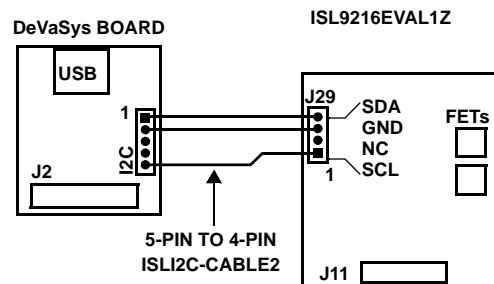

FIGURE 6. I²C CONNECTION TO ISL9216 PCB
- Connect the I²C cable from the interface board to the ISL9216EVAL1Z (Rev D), as in Figure 6.